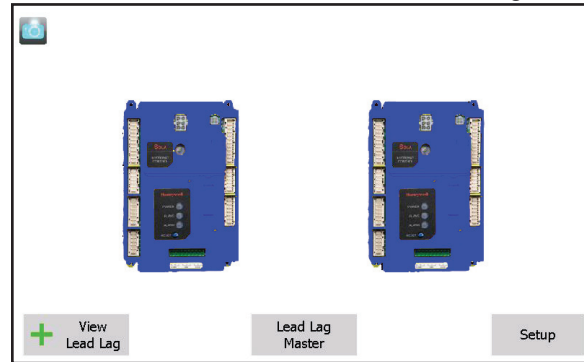

Fig. 56 – ‘home’ screen
1. Start at the ‘home’ screen. See Fig. 56.